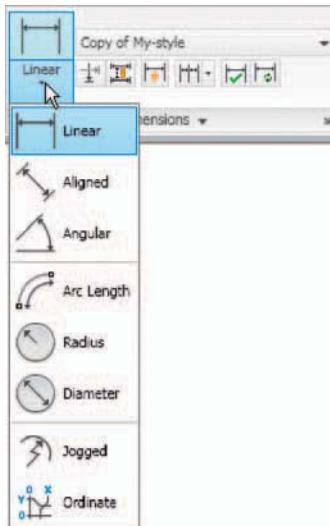

Fig. 6.3 The **Linear** tool icon in the **Annotate/Dimension** panel
3. Click the **Linear** tool icon in the **Annotate/Dimension** panel (Fig. 6.3) or on **Linear** in the **Dimension** toolbar. The command line shows:
3. The drop-down menu from the **Line** tool icon contains the following tool icons – **Angular**, **Linear**, **Aligned**, **Arc Length**, **Radius**, **Diameter**, **Jog Line** and **Ordinate**. Please refer to Fig. 6.3 when working through the examples below. **Note** when a tool is chosen from this menu, the icon in the panel changes to the selected tool icon.
3. *Left-click* the **Aligned** tool icon (see Fig. 6.3) and dimension the outline. The prompts and replies are similar to the first example.
3. *Left-click* the **Radius** tool icon (see Fig. 6.3). The command line shows: